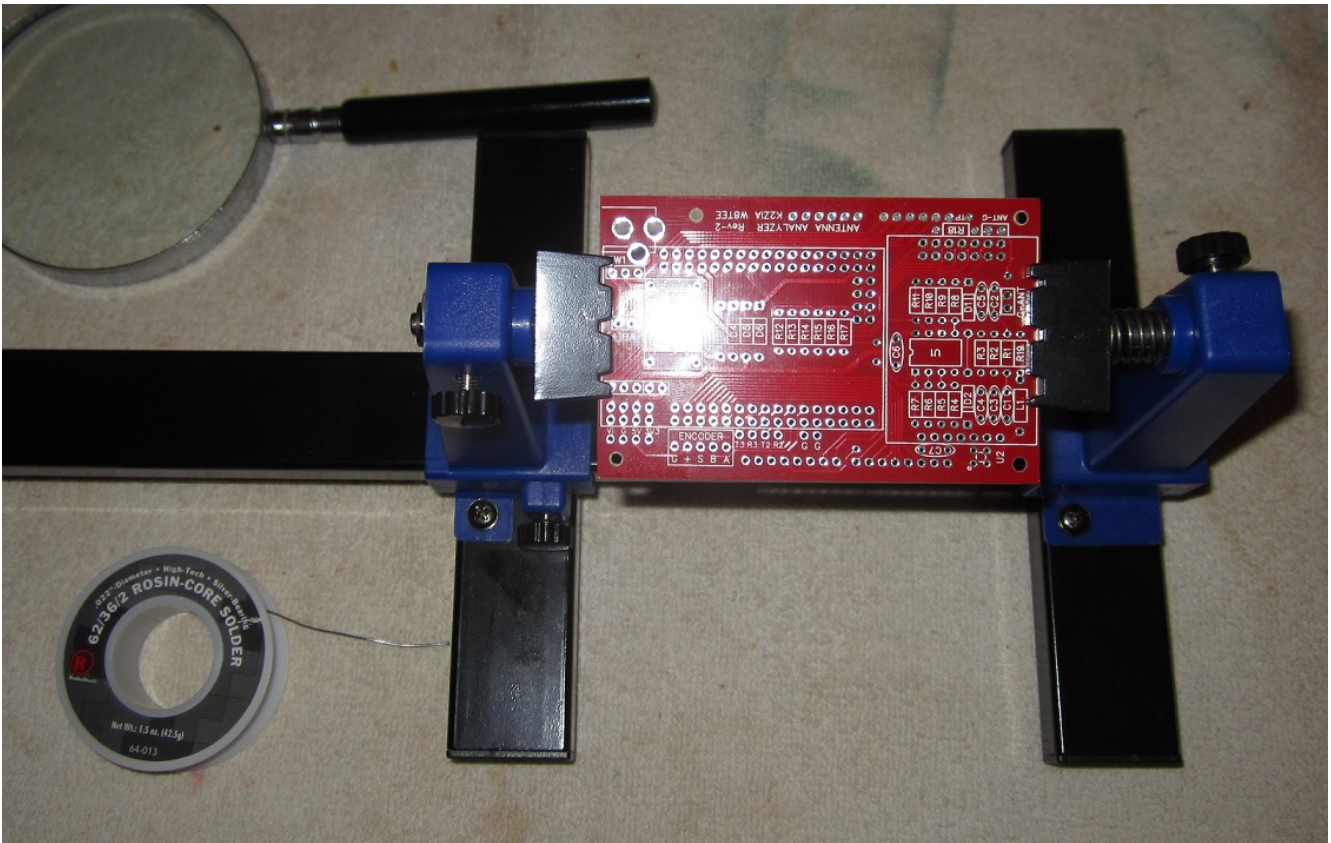

Figure 3. PCB holder.
3. Solder. Use rosin core solder only and the thinner, the better. I use .022" silver solder (62/36/2) which is a blend of tin, lead, and silver. I bought mine at Radio Shack, but it's getting hard to find. (See bottom-left of Figure 3.) Check eBay. Unless you want to buy a pound of the stuff, it's useful to sort the eBay list by price.
4. Magnifying glass. (Also shown in Figure 3.) Even with good eyesight, it makes reading resistor band colors and capacitor numbers easier. Good lighting is important when reading color bands. Purple and blue look a lot alike in poor lighting.
- 2) PCB holder, about \$10.00 (#401112964765). Makes it easier to hold a PCB in place while mounting and soldering components. I bought one on eBay because I build a lot of kits. See Figure 3. You can rotate the board easily after mounting the parts for soldering the components on the “under” side of the board. You can also see a dirty old towel under the holder as sometimes I drop a part and it's easier to find on the towel, plus the parts don't bounce when they hit the table. You'd be surprised how hard it is to see an 1/8W resistor on certain types of carpet. (I'm old and it happens.)